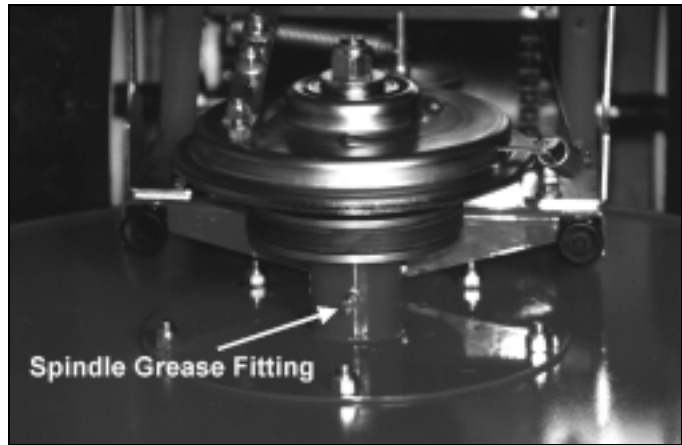

Figure 10
- The mower spindle (*Figure 10*) should have 3-4 pumps every 100 operating hours.